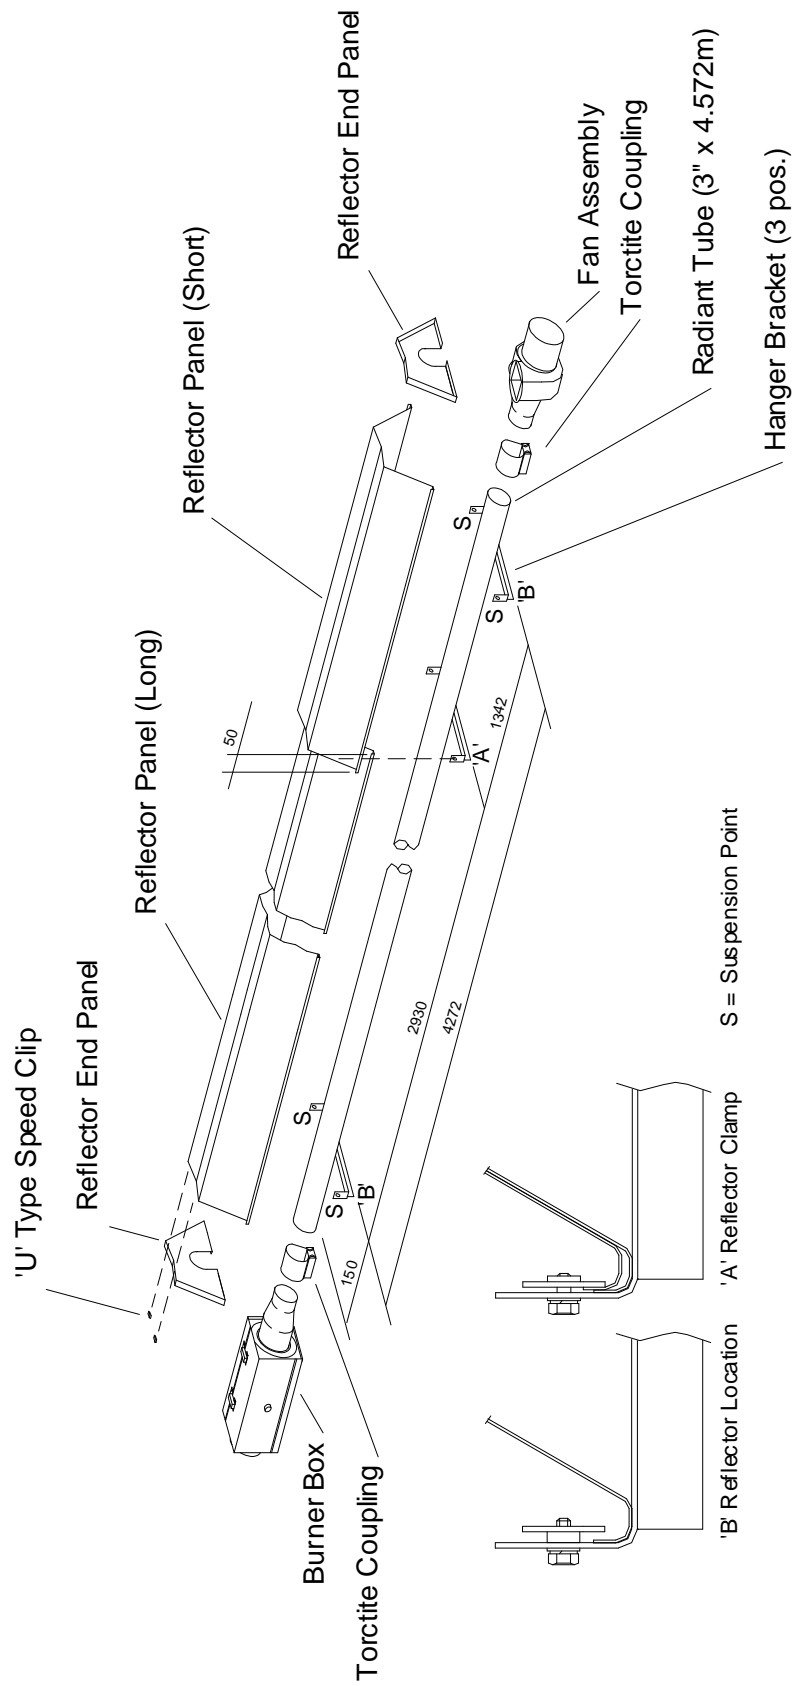

Fig. 20
4.5.2 Place the Radiant Tube on trestles, providing 150mm minimum clearance above the floor and assemble the three Hanger Brackets to the Radiant tube using one U bolt per bracket (fastening pack) and position along the Radiant Tubes as shown in Fig. 20. Ensure that the welded seam of the tube is in contact with the Hanger Bracket, i.e. facing away from the reflector. Tighten the nuts sufficiently to retain the Hanger Brackets. Do not overtighten.
4.5.5 Place the two Reflector Panels onto the Hanger Brackets and position to provide a 50mm overlap, arranged equally about the inner Hanger Bracket (see Fig 20.). Clamp the two Reflector Panels to the inner Hanger Bracket using two Retainers and M6 setscrews and washers (fastening pack). Screw the remaining (4) Retainers to the two outer Hanger Brackets to provide location for the Reflector Panel ends as shown in Fig. 20.
4.5.6 Position one Reflector End Panel over the Radiant Tube and into one end of the Reflector Panels, with the End Panel flange flush with the end of the Reflector Panel. Secure the Reflector End Panel to the Reflector Panel by use of six 'U' type speed clips provided (fastening pack): 2 clips per facet of Reflector Panel, as shown in Fig 20.
4.5.7 The appliance should now be raised and suspended from previously fixed chains or drop rods as detailed in Section 3.1., at suspension points indicated in Fig. 20. Rope or webbing slings should be used when lifting from above. If using a forklift to position the appliance, ensure that it is balanced on the forks prior to lifting.